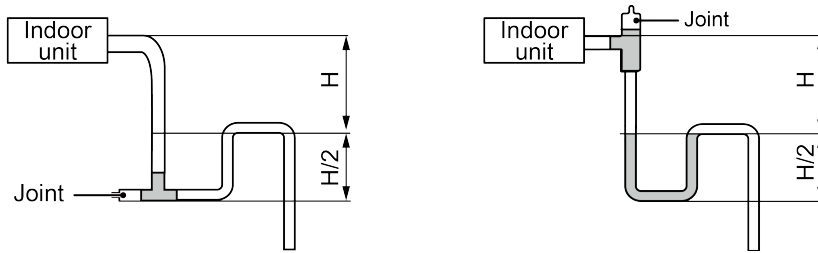

Fig.4.3.5
(5) Install the trap as shown in following Fig.4.3.5.